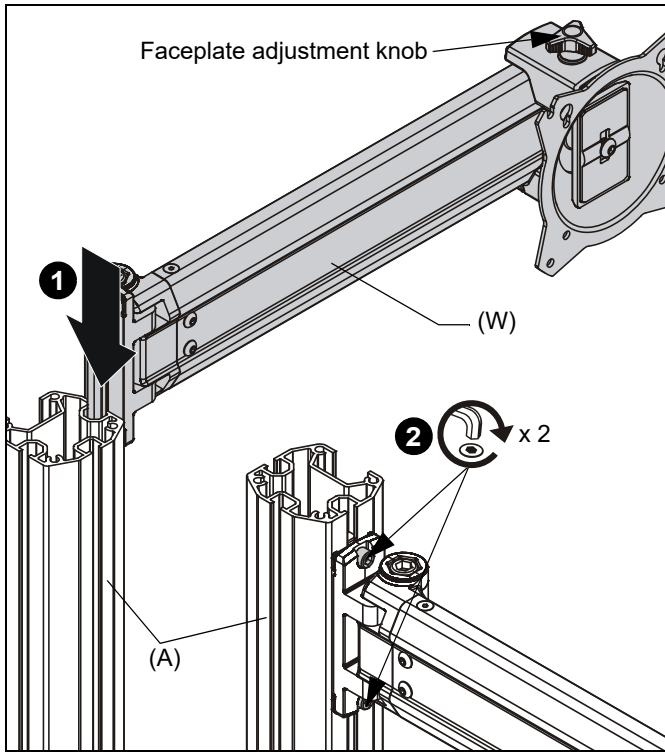

Figure 1
NOTE: Be sure the faceplate adjustment knob is on top when installing the arms. (See Figure 1)
1. Slide array arm-right (W) into top of column assembly. (See Figure 1)
2. Tighten two fasteners to secure array arm into place. (See Figure 1)